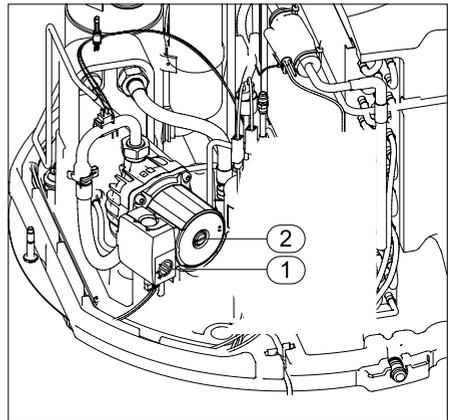

Fig. 5
- Set the selector switch on the DHW pump to “III”. (Fig.5(1))
Open the drain screw on the heating pump (Fig.5(2)) until the water flows steadily and without air bubbles.